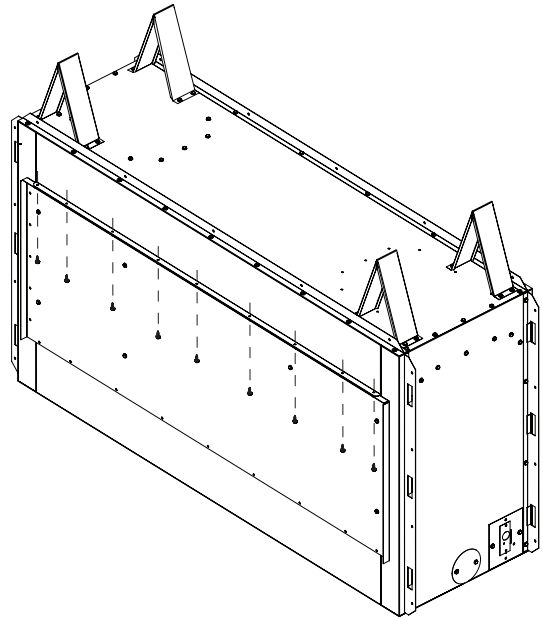

Figure 16 - Removing Rear Panel for See-Thru Applications
1. In the rear of the fireplace, locate screws at top of rear panel and remove as shown in Figure 16. Discard screws and rear panel.